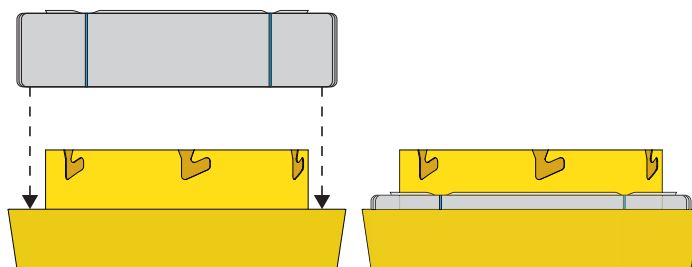

FIG. 6
Install one of the CC500's cassettes into the Cassette Holder (B) pushing it down so that it is snug and even on all sides [FIG. 6].